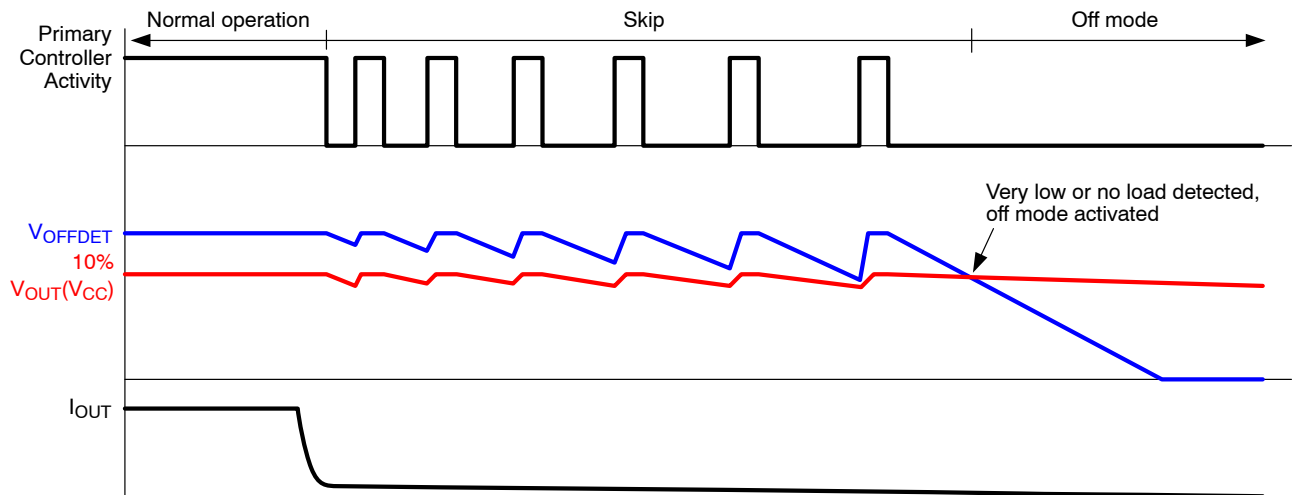

Figure 27. OFF Mode Detection
The OFF mode detection is based on comparison of output voltage and voltage loaded with fixed resistances (D2, C2, R7 and R8). Figure 27 shows detection waveforms. When output voltage is loaded with very low current, primary controller goes into skip mode (primary controller stops switching for some time). While output capacitor C1 is discharged very slowly (no load condition), a fixed load R7 and R8 discharges the capacitor C2 faster than load current discharges output voltage on C1.
While both C1 and C2 are discharged during the missing cycles, C2 discharge will be faster than C1 without output current, V_{OFFDET} drops below $V_{OFFDETTH}$ and OFF mode is detected (7). This situation is shown in Figure 27 in detail. When OFF mode is detected, current into ONOFF pin stops to flow (7) and voltage at primary REM pin increases over threshold level that forces primary controller into OFF mode. Internal pull-up current I_{BIASV} is switched on (7), VSNS pin voltage increases (thanks to I_{BIASV}) and voltage amplifier sinks reduced current (at time (8), when VSNS is higher than V_{REF} (9), to keep primary FB voltage below switching level until REM pin voltage is high enough. I_{BIASV} current stops when VSNS voltage drops below 90% of V_{REF} .